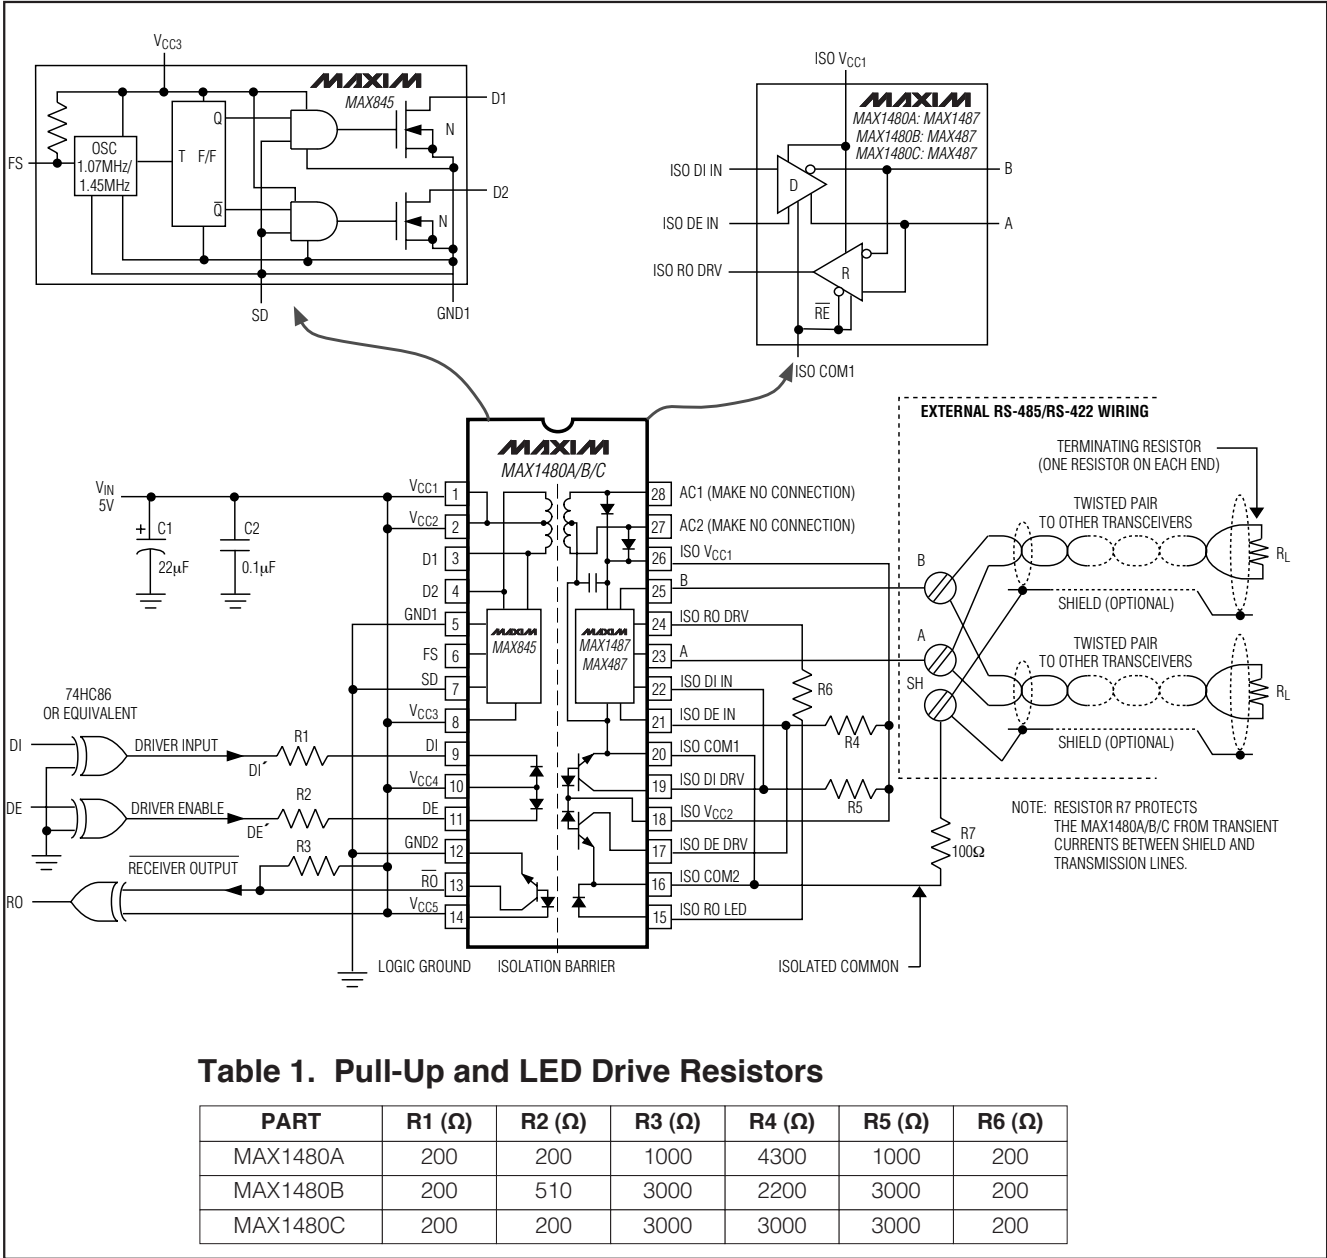
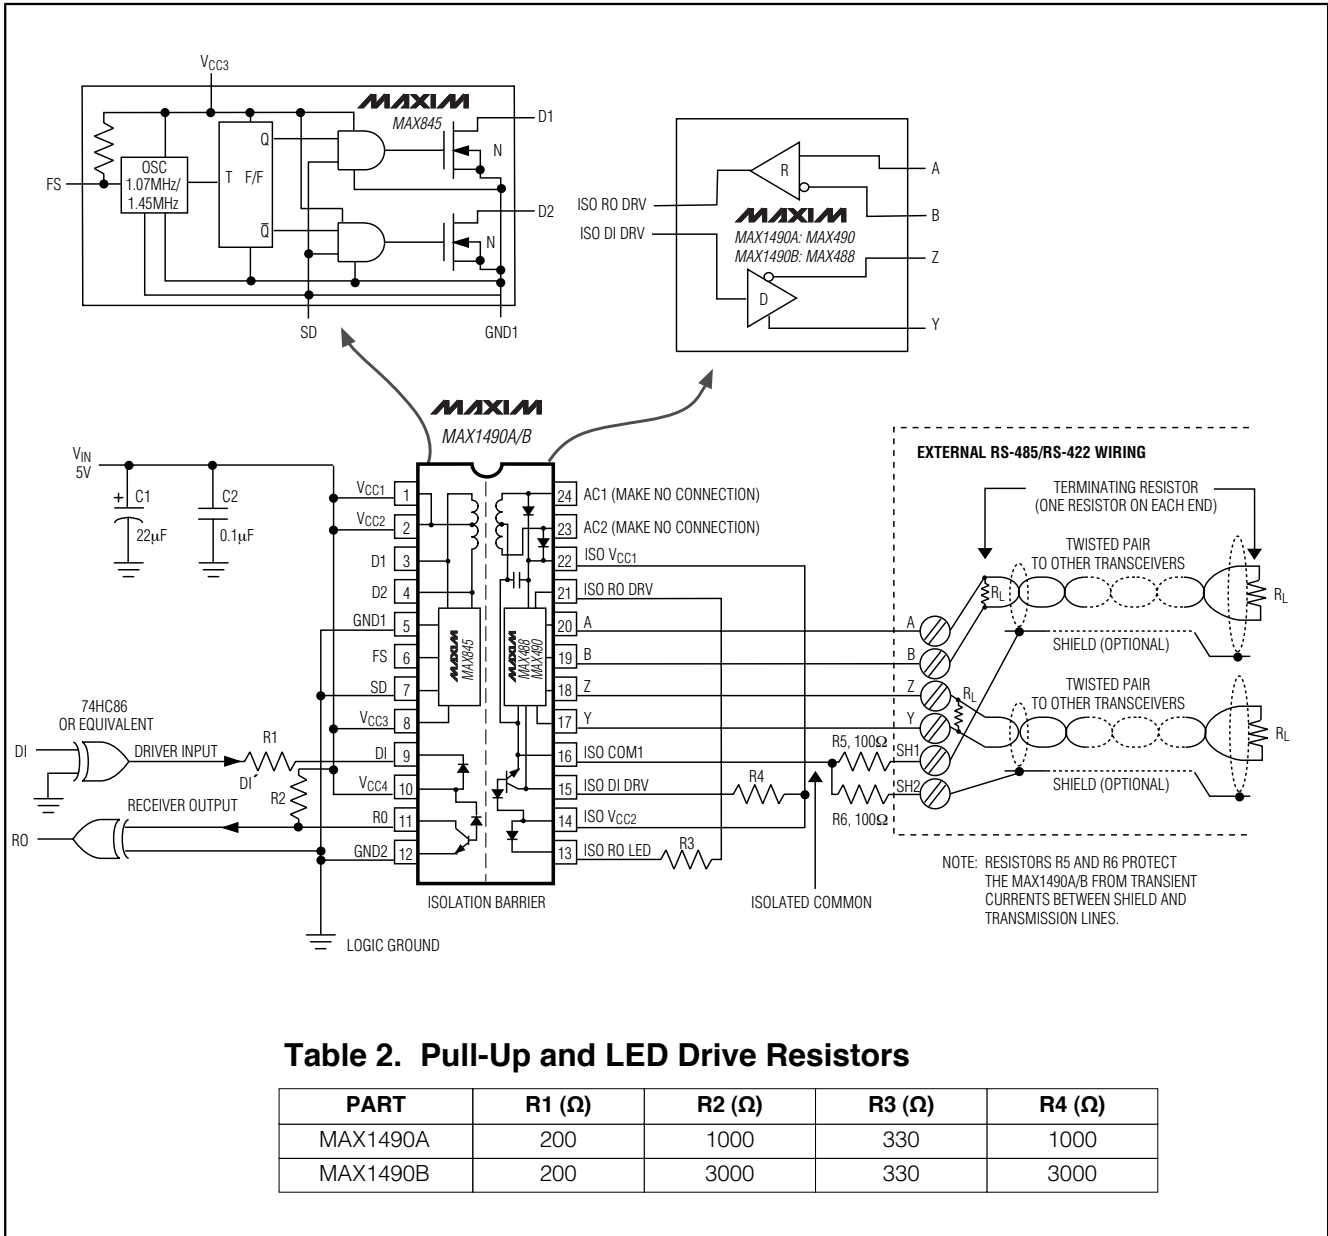

Figure 1. MAX1480A/MAX1480B/MAX1480C Detailed Block Diagram and Typical Application Circuit
Figure 2. MAX1490A/MAX1490B Detailed Block Diagram and Typical Application Circuit
**Note 2:** For DE+ and DI+ pin descriptions, see *Detailed Block Diagram and Typical Application Circuit* (Figure 1 for MAX1480A/MAX1480B/MAX1480C, Figure 2 for MAX1490A/MAX1490B).
**Note:** For DE+ and DI+ pin descriptions, see *Detailed Block Diagram and Typical Application Circuit* (Figure 1 for MAX1480A/B/C, Figure 2 for MAX1490A/B).
The MAX1480A/MAX1480B/MAX1480C/MAX1490A/MAX1490B are complete, electrically isolated, RS-485/RS-422 data-communications interface solutions. Transceivers, optocouplers, a power driver, and a transformer in one standard 28-pin DIP package (24-pin for the MAX1490A/B) provide a complete interface. Signals and power are internally transported across the isolation barrier (Figures 1, 2). Power is transferred from the logic side (nonisolated side) to the isolated side of the barrier through a center-tapped transformer. Signals cross the barrier through high-speed optocouplers. A single +5V supply on the logic side powers both sides of the interface. The MAX1480A/B/C offer half-duplex communications while the MAX1490A/B feature full-duplex communication. The functional input/output relationships are shown in Tables 3–6.
\* For DE′ and DI′ pin descriptions, see *Detailed Block Diagram and Typical Application Circuit* (Figure 1 for MAX1480A/B/C, Figure 2 for MAX1490A/B).
The MAX1480A/MAX1480B/MAX1480C/MAX1490A/MAX1490B are specified and characterized using the resistor values shown in Table 1 of Figure 1 and Table 2 of Figure 2. Altering the recommended values can degrade performance.
The isolated common may be completely floating with respect to the logic ground and the effective network ground. The receiver input resistors will cause the isolated common voltage to go to the mean voltage of the receiver inputs. If using shielded cable, connect the isolated common to the shield through a 100Ω resistor. In the case of the MAX1490, each shield should have its own 100Ω resistor (Figures 1, 2, 13, and 14).